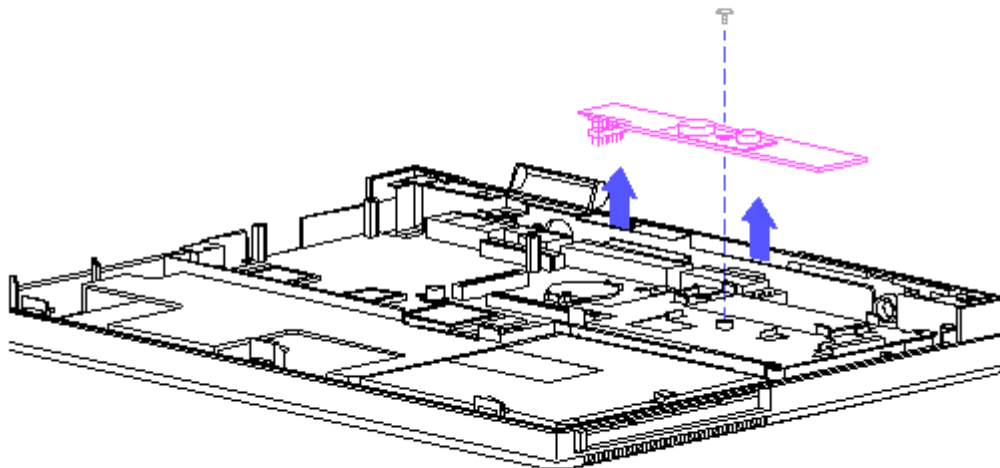

Figure 2-26. Removing the User Interface Board
4. Using a screwdriver, remove the screw from the top of the user interface board and remove the board from the hard drive bracket by gently pulling up on the connector end of the user interface board (Figure 2-26).